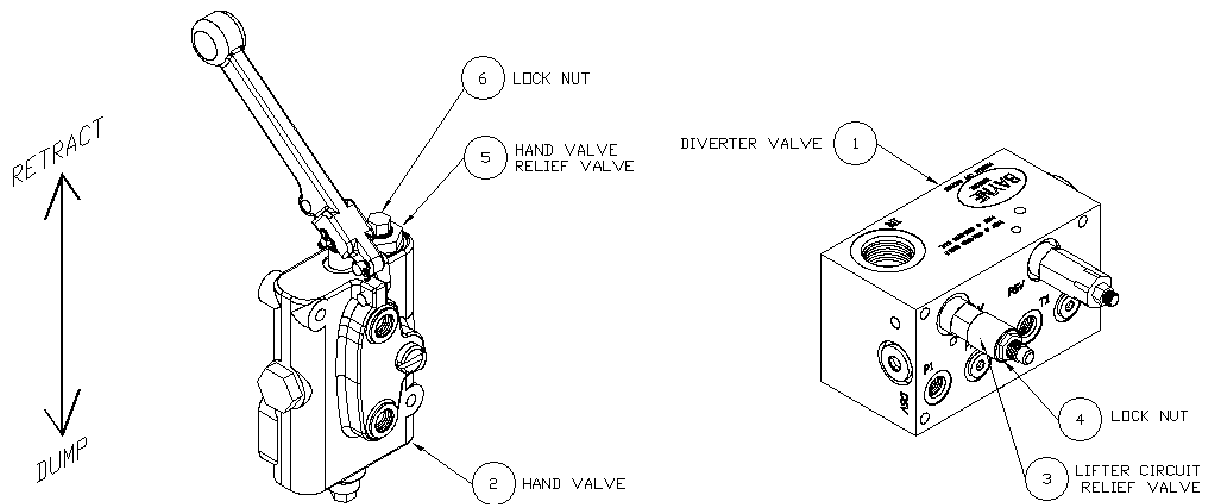
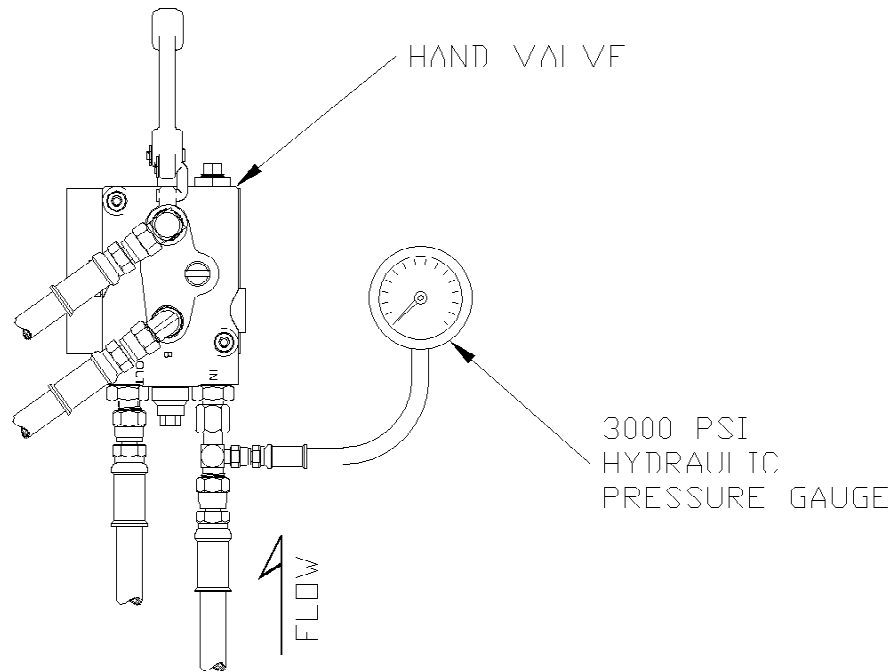

figure I-4
figure I-5
The diverter valve (1) (figure I-4) supplies the cart lifter hydraulic system with approximately 2 GPM of oil flow. This diverter valve is equipped with a lifter circuit relief valve (3) set at 2500 psi, to prevent the diverter valve from shutting down if a blockage occurs in the lifter circuit. There is also a relief valve (5) set at 1800 psi in the hand valve (2) to protect the lifter from excessive pressure. These relief valves are preset from the factory to operate properly on most trucks with a system pressure between 2300 and 2500 psi without any adjustment. However, if any adjustment is necessary, follow these instructions.
2. Loosen the lock nut (6) (*figure I-4*) from the hand valve relief valve(s) (5) and turn the adjustment screw(s) clockwise until it bottoms out.
3. Loosen the lock nut (4) (*figure I-4*) on the lifter circuit relief valve (3) and turn the adjustment screw clockwise until it bottoms out.
5. Operate the handle on the hand valve (2) (*figure I-4*) back and forth a few times to bleed all air from the lifter hydraulic system.
7. Install a 3000 psi hydraulic pressure gauge with the necessary adapter in the hydraulic line connected to the "IN" port of the hand valve as shown in figure I-5. *If installing dual lifters, install the hydraulic gauge at either one of the hand valves.*
- a) Have an assistant hold the handle on the hand valve (2) (*figure I-4*) (*with pressure gauge installed at the "IN" port*) in the "retract" position to show pressure on the gauge.
- b) Turn the pressure relief adjusting screw on the lifter circuit relief valve (3) counter-clockwise until the pressure reading on the gauge is either 100 psi less than the truck system pressure or 2300 psi, which ever is the lowest.
- a) Hold the handle on the hand valve (2) (*figure I-4*) (*with pressure gauge installed at the "IN" port*) in the "retract" position to show pressure on the gauge.
- b) Turn the pressure relief adjusting screw on the hand valve relief valve (5) counter-clockwise until the pressure reading on the gauge is either 200 psi less than truck system pressure or 1800 psi, which ever is the lowest.
- f) *For dual lifters, install the hydraulic pressure gauge in the "IN" port of the other hand valve as shown in figure I-5, start the truck's engine, engage the hydraulic system, and repeat step 10.*
11. Tighten the lock nut (6) (*figure I-4*) on the hand valve relief valve(s) (5) to secure the correct pressure setting(s).
12. Tighten the lock nut (4) (*figure I-4*) on the lifter circuit relief valve (3) to secure the correct pressure setting.